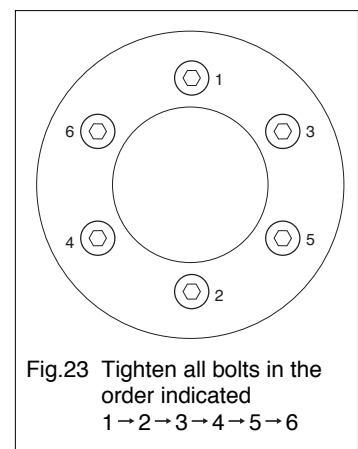

Fig.23 Tighten all bolts in the order indicated
① First, tighten all bolts in the order indicated in Fig.23 (1 → 2 → 3 → 4 → 5 → 6) using 1/3 of the designated tightening torque.
② Second, tighten all bolts in the same order using 2/3 of the designated tightening torque.
③ Third, tighten all bolts in the same order using the designated tightening torque.
④ Finally, tighten all bolts in the same order a few times using the designated tightening torque.